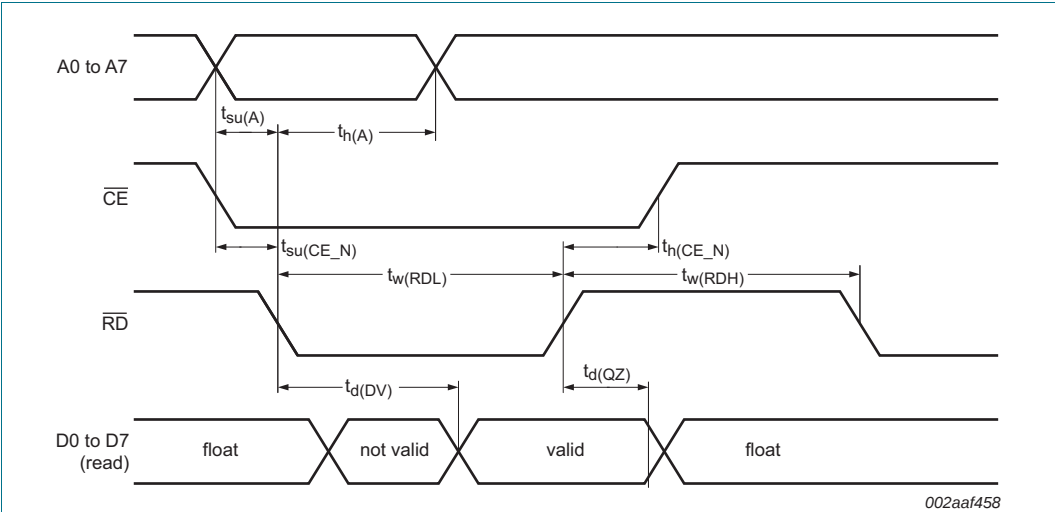
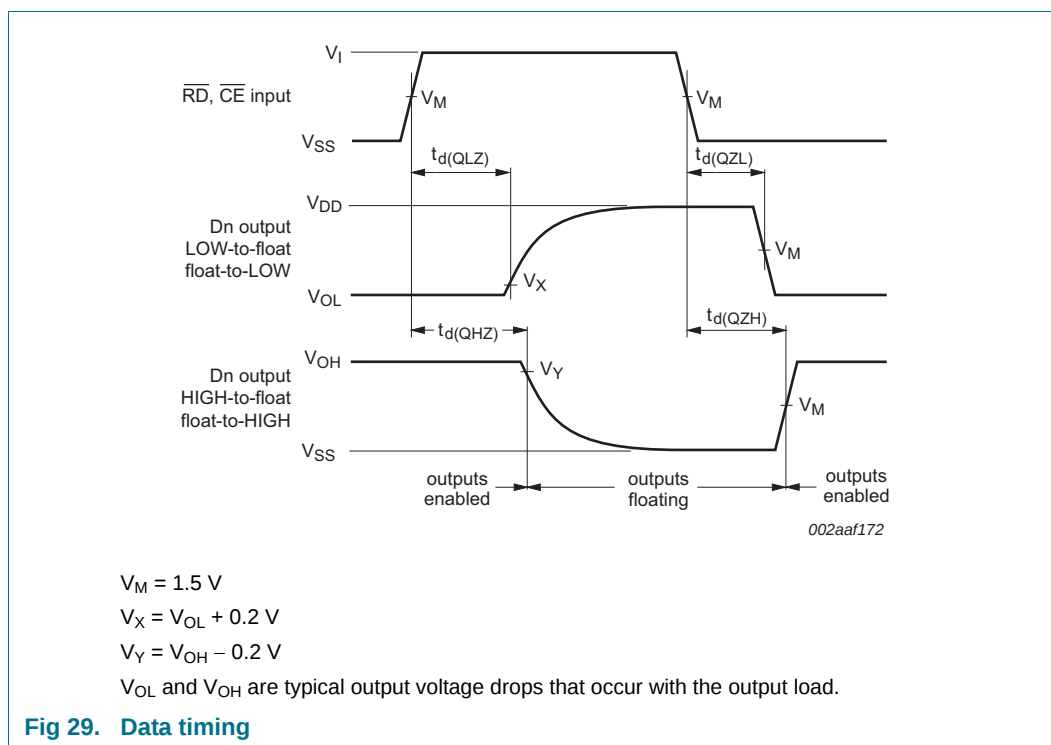

Fig 27. Bus timing (read cycle)
Fig 29. Data timing
Bus timing (see Figure 27 and Figure 29)
- [2] All voltage measurements are referenced to ground (V_{SS}). For testing, all inputs swing between 0 V and 3.0 V with a transition time of 5 ns maximum. All time measurements are referenced at input voltages of 1.5 V and output voltages shown in Figure 27 and Figure 29.